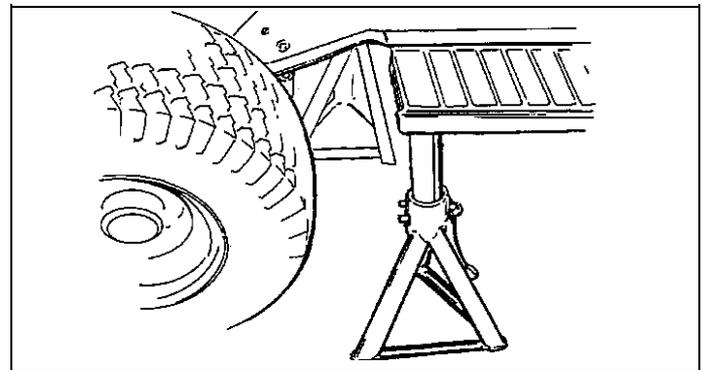

Figure 26. Elevate the Rear End
4. Support the rear of the unit on jack stands positioned under the rear frame (see Figure 26).